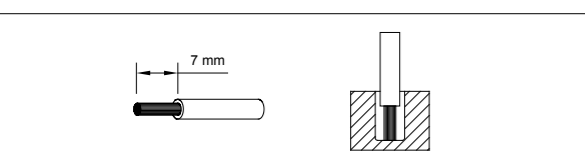

Figure 4
(1)	0.82-8.4	18-8	9.333	8.1
(2)	3.3-5.3	12-10*	9.333	8.1
To secure reliable and shock proof connections, the stripping length should be 7mm (see Fig. 4 (1)). Please ensure that wires are fully inserted into the connecting terminals as shown in Fig. 4 (2).